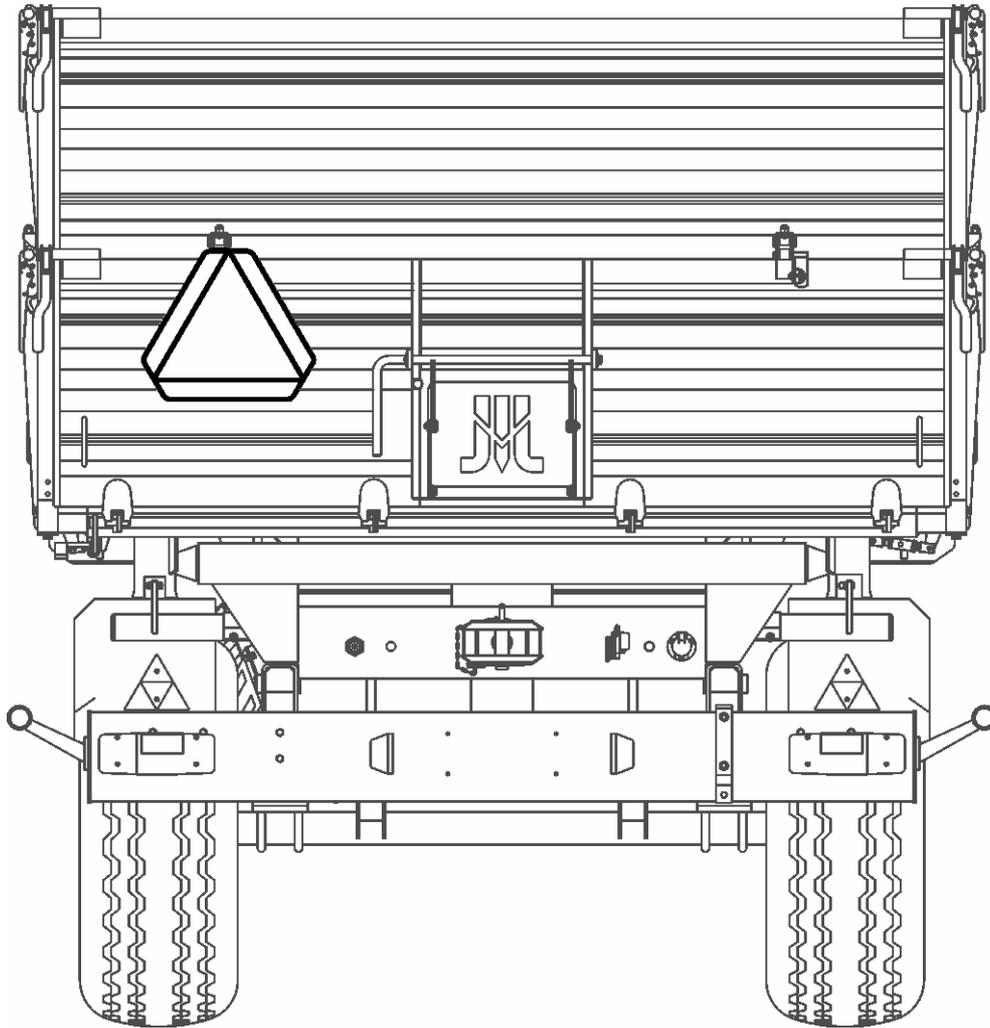

Fig. 2 Location of a triangular plate for slowly moving vehicles.
- Rear wall should be equipped with a triangular plate for slowly moving vehicles (if the trailer is the last vehicle in a set (Fig. 2)).